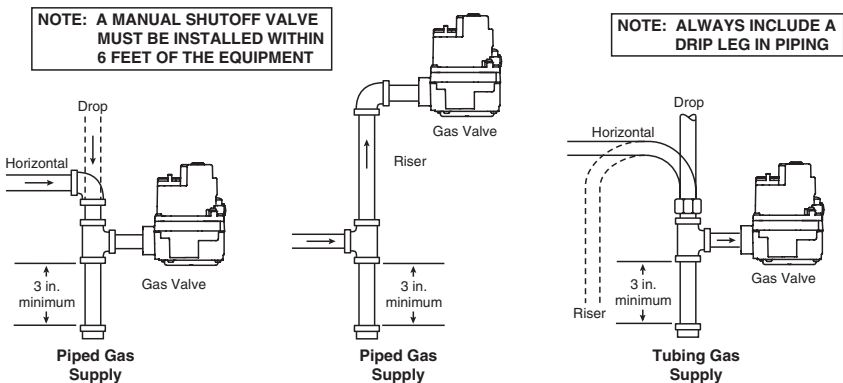

Figure 3. Typical Gas Valve Piping
5. Apply pipe joint compound (pipe dope) or teflon tape that is approved for all gases, only to the male threads of the pipe joints. DO NOT apply compound or teflon tape to the first two threads (see fig. 3 for typical piping connections).